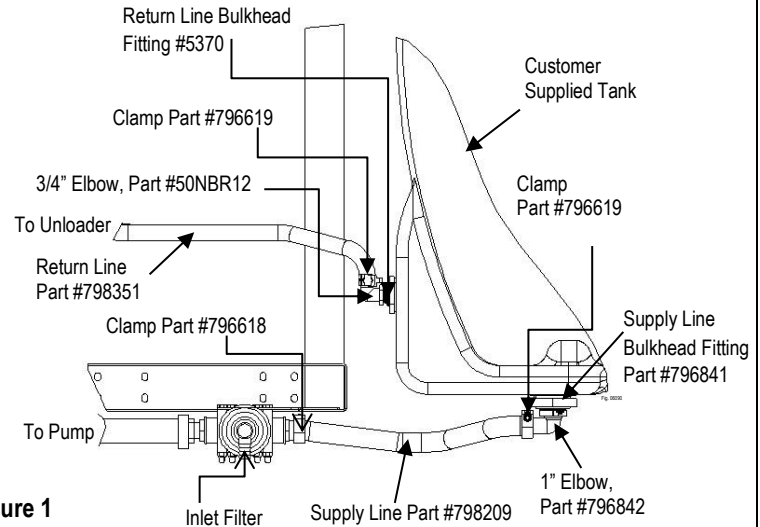

Figure 1
- Step 6.** Connect the supply line (1" supply line hose provided, figure 1):
- Step 7.** Connect the return line (connected to the unloader on the skid, figure 1):